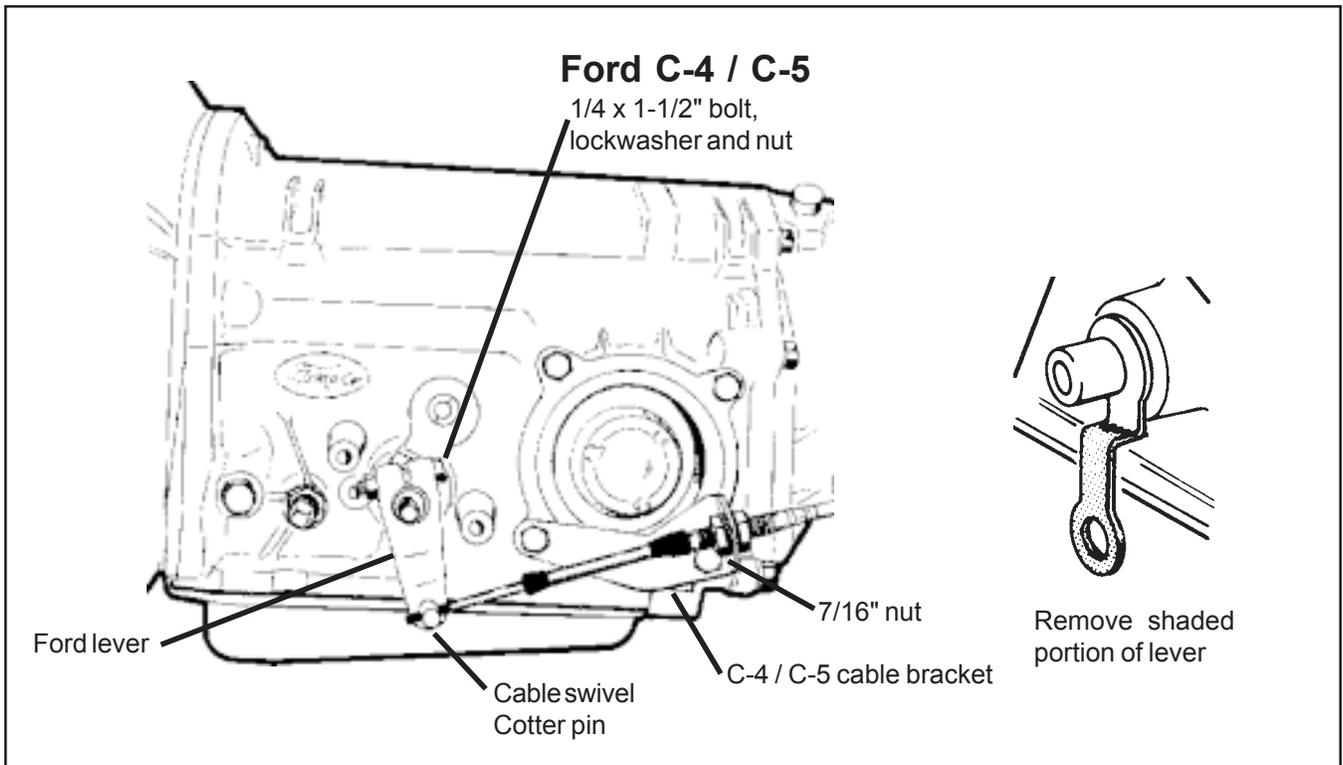
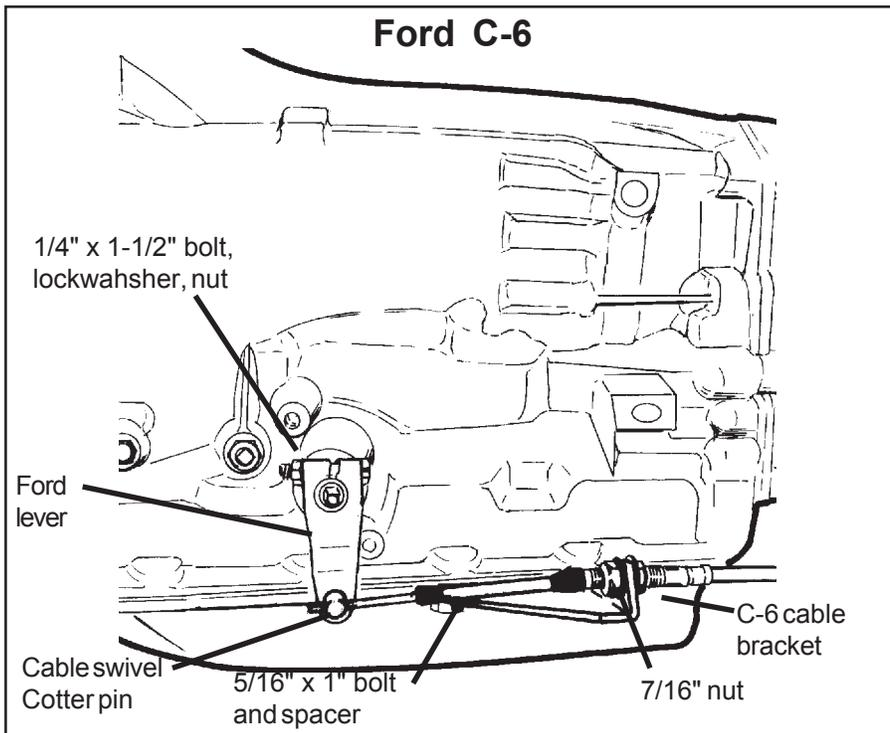

Figure 6
Figure 7
STEP 3. Install the **B&M** selector lever, (**See figure 6 or 7**). Note: The B&M lever must point downward for proper operation. If the stock shift lever on your transmission points down, you will have to remove the lower part of the stock arm by cutting it off to clear the **B&M** lever, (**See figure 6 or 7**). Install **B&M** selector lever onto shift shaft of transmission. Align selector lever so when it points straight down it travels equal arcs in both directions from center, then tighten 1/4"-20 x 1 1/2" pinch bolt and nut. The lever should travel smoothly from front to back with a positive click in each gear position. Make sure O-ring is in position on downshift shaft and install downshift lever in position on shaft. Install lockwasher and nut and tighten
STEP 4. C-4/C-5 Cable bracket installation: Remove the two lower bolts from the rear servo cover. Install cable bracket in position, (See figure 6). Install two servo cover bolts as removed and tighten 12-13 lb-ft. Do not over tighten as this can distort servo cover. C-6 Cable bracket installation: Remove the two transmission oil pan bolts from the left rear corner of the oil pan. Install the cable bracket in position (See Figure 7) with two spacers between the pan and the bracket. (If your transmission is equipped with a cast aluminum oil pan, these spacers can be omitted.) Install the two 5/16-18 x 1.00" bolts supplied and tighten to 12-13 lb-ft. Do not overtighten as this can damage the pan gasket.